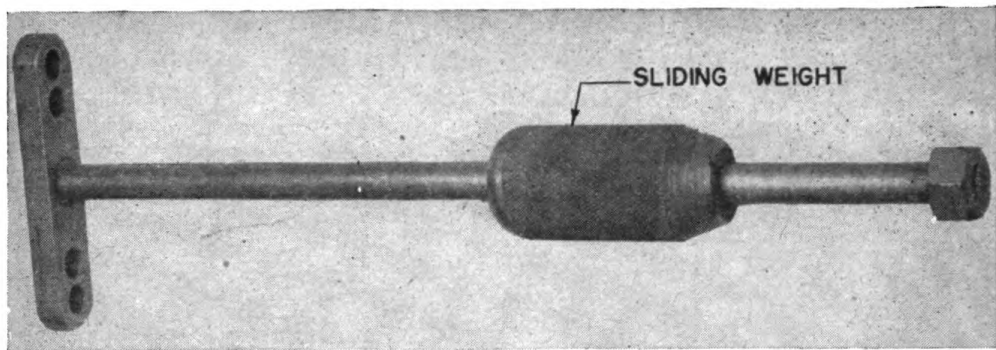
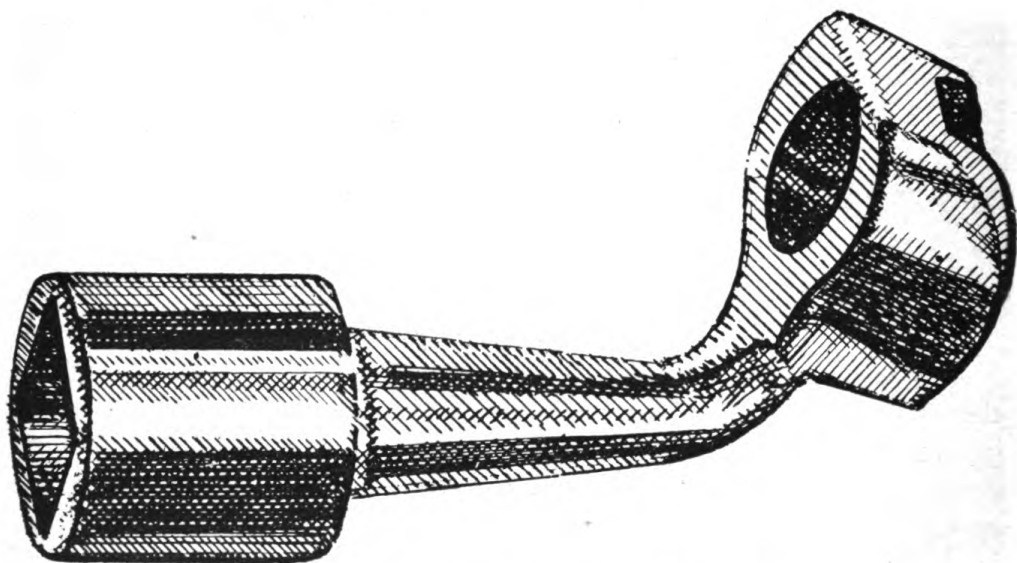

Figure 26. Oil-pump puller.
Figure 27. Cylinder stud nut wrench.
(2) Gears, collars, ball bearings, and similar parts sometimes bind on the shaft. When they do, they may be easily removed by the use of a gear puller. The ends of the L-shaped bars are first placed around the gear to be removed and then the bolt is screwed down until it bears against the shaft. As the bolt is tightened further, the gear is pulled off the shaft. If the gear seems to be stuck so that the gear puller cannot move it, striking the head of the bolt of the gear puller will often jar it loose. When removing ball bearings, the force must be against the inner race only, or damage to the bearing will result.
*f. OIL-PUMP PULLER.* (1) An oil-pump puller is a shaft with a firmly attached crosshead on one end, a nut on the other, and a loose-fitting piece of metal free to slide on the shaft. It resembles the letter "I" in shape. The crosshead has several holes or a slot on each side. (See fig. 26.)
(2) Oil pumps on many types of airplane engines fit tightly and have no spot at which the mechanic can grip them to remove them. Removal of these pumps is made easy with an oil-pump puller.
(3) Two bolts are inserted through the head of the puller and tightened into two threaded holes in the oil pump. The sliding weight is then used to hammer against the nut on the end of the shaft, pulling the oil pump loose.
*g. CYLINDER STUD-NUT WRENCH.* A cylinder stud-nut wrench is a socket wrench with one side machined away and an offset drive. It may be either left- or right-handed. (See fig. 27.) Ordinary wrenches cannot be used on cylinder-head nuts because of the inaccessibility of the